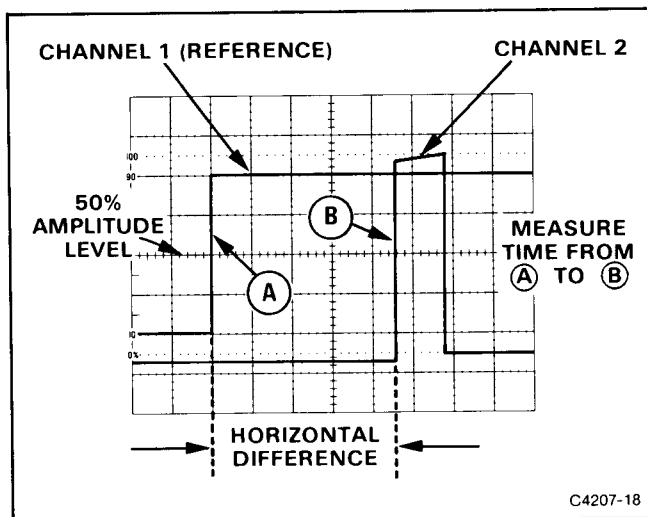

Figure 4-8. Time difference between pulses on time-related signals.
8. Set the A SEC/DIV switch to a sweep speed which provides three or more divisions of horizontal separation between the reference points on the two displays. Center each of the displays vertically (see Figure 4-8).